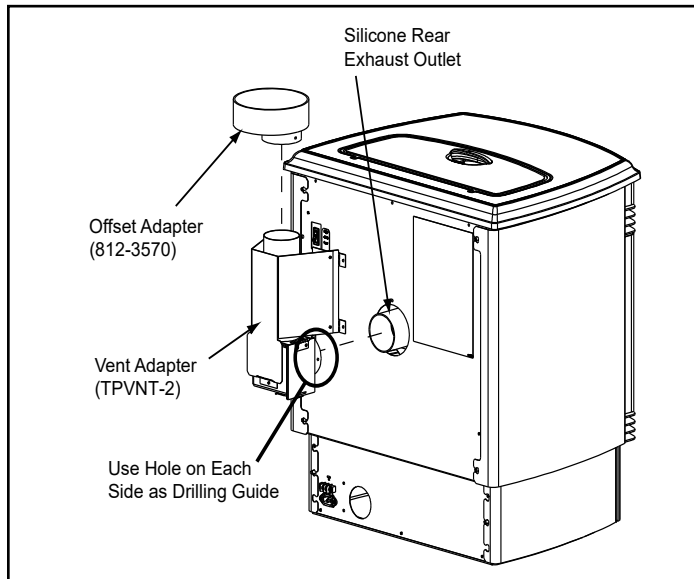

Figure 21.1
1. Put a layer of high temperature silicone on the 3 inch (76mm) exhaust outlet. **Do not put silicone inside of pipe (Figure 21.1).**
2. Slide the top vent adapter onto the rear exhaust outlet and adjust the assembly to a vertical position (**Figure 21.1**).
5. Drill 2 holes with #26 drill bit through the rear exhaust outlet using the 2 holes already in the short horizontal pipe in the top vent adapter as a guide. Install the 2 screws (**Figure 21.1**).